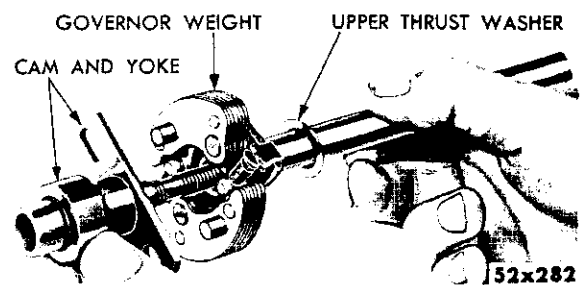

Fig. 86—Distributor Shaft Assembly
(4) Slide the cam and yoke on the distributor shaft, engage the weight lugs with the slots in the yoke (Fig. 86). Install the cam retaining spring clip. Be sure it is properly seated in the groove of the distributor shaft.
(5) Lubricate and install the two concave upper thrust washers for AutoLite distributors or a single flat thrust washer for Chrysler-built distributors. Position the washers on the distributor shaft and slide the shaft into the distributor body. Position the lower thrust washer and drive the collar on the lower end of the shaft. Install the retainer pin.
(6) Install the oiler wick and oiler.
(7) Install the breaker plate assembly. Align the condenser lead, breaker point spring, primary lead and install the attaching screws.
(8) Install the felt wick in the top of the distributor cam.
(9) Attach the vacuum advance unit arm to the breaker plate and install the retainer. Install the vacuum unit attaching screws and washers.
(10) Test the breaker arm spring tension, and adjust the contact gap.
(11) Lubricate the felt pad in the top of the dis-